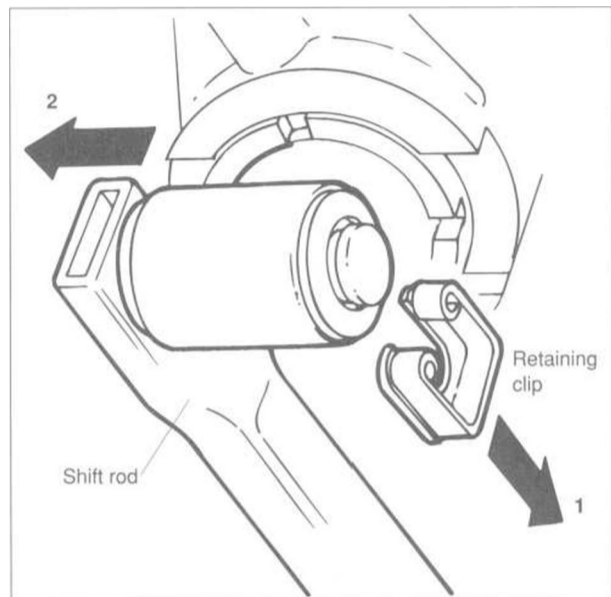

Fig. 2. Remove shift boot cover by prying up at rear (arrow) and then lifting off from front retainers.
2. Unclip shift boot cover from retainers at front and remove cover together with shift boot. See Fig. 2.